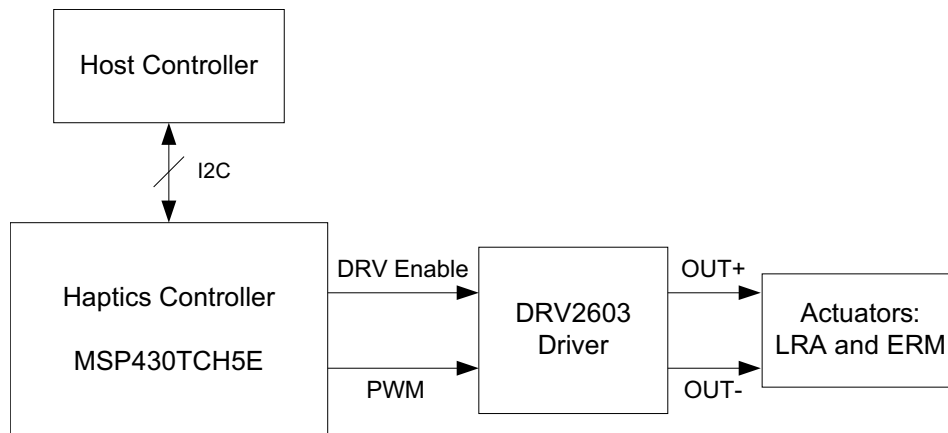

Figure 2. Host-Controlled System With an External Host Controlling MSP430TCH5E Device Haptics Controller
- Host-controlled systems where an external host controls the MSP430TCH5E haptics controller device. See Figure 2.